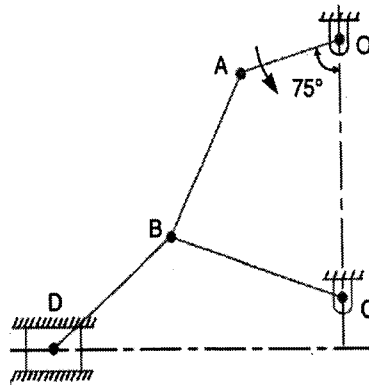

Fig. 2
- (ii) As shown in the fig. 2, angular velocity of the crank OA is 600 r.p.m. Determine the linear velocity of the slider D and the angular velocity of the link BD, when the crank is inclined at an angle of 75° to the vertical. The dimensions of various links are $OA = 28$ mm; $AB = 44$ mm; $BC = 49$ mm; and $BD = 46$ mm. The centre distance between the centres of rotation O and C is 65 mm. The path travel of the slider is 11 mm below the fixed point C. The slider moves along the horizontal path and OC is vertical.